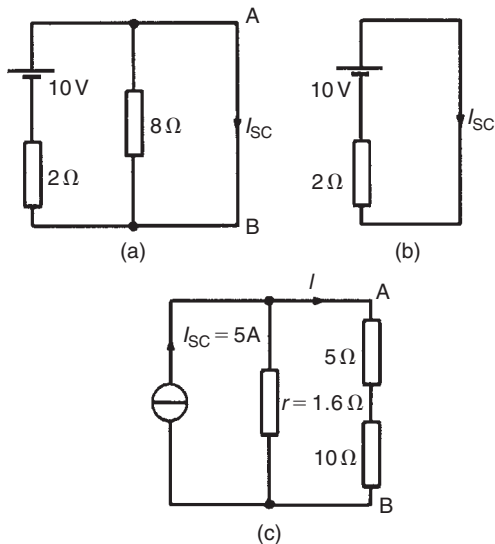

Figure 13.55
- (i) The branch containing the 10Ω resistance is short-circuited as shown in Fig. 13.55(a)
- (ii) Fig. 13.55(b) is equivalent to Fig. 13.55(a).
- (iii) If the 10V source of e.m.f. is removed from Fig. 13.55(a) the resistance 'looking-in' at a break made between A and B is given by:
- (iv) From the Norton equivalent network shown in Fig. 13.55(c) the current in the 10Ω resistance,